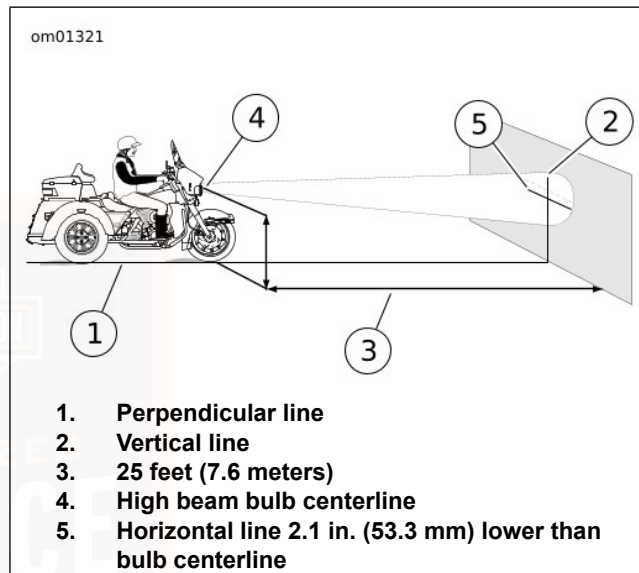

Figure 62. Check Headlamp Alignment
See Figure 62. To aid in properly placing the motorcycle, a perpendicular line (1) can be drawn on the floor. For best results, choose an area with minimum light.
3. See Figure 62. Draw a vertical line (2) on the wall.
7. See Figure 62. Verify headlamp alignment. Turn the ignition switch to IGNITION and set the headlamp switch to HIGH beam.